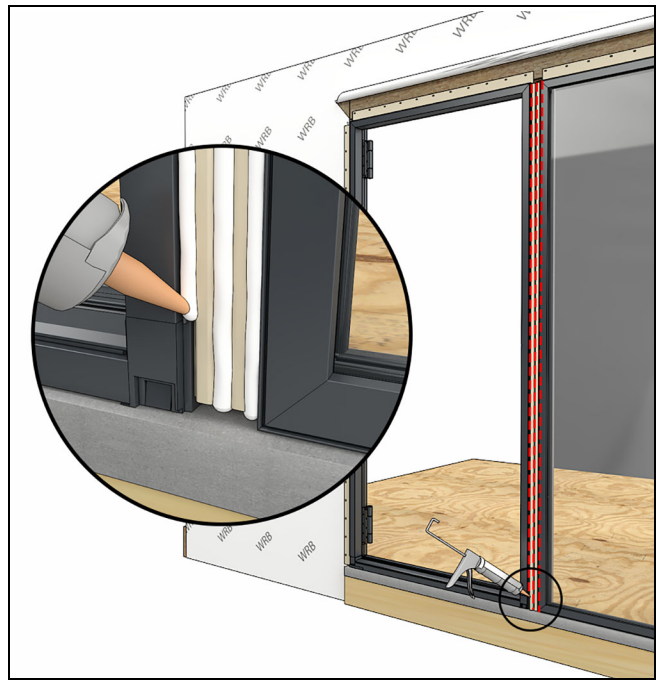

Figure 247
24. Apply three beads of sealant over the mull fillers—one on each side (between the fillers and frame) and one in the middle. See Figure 247.